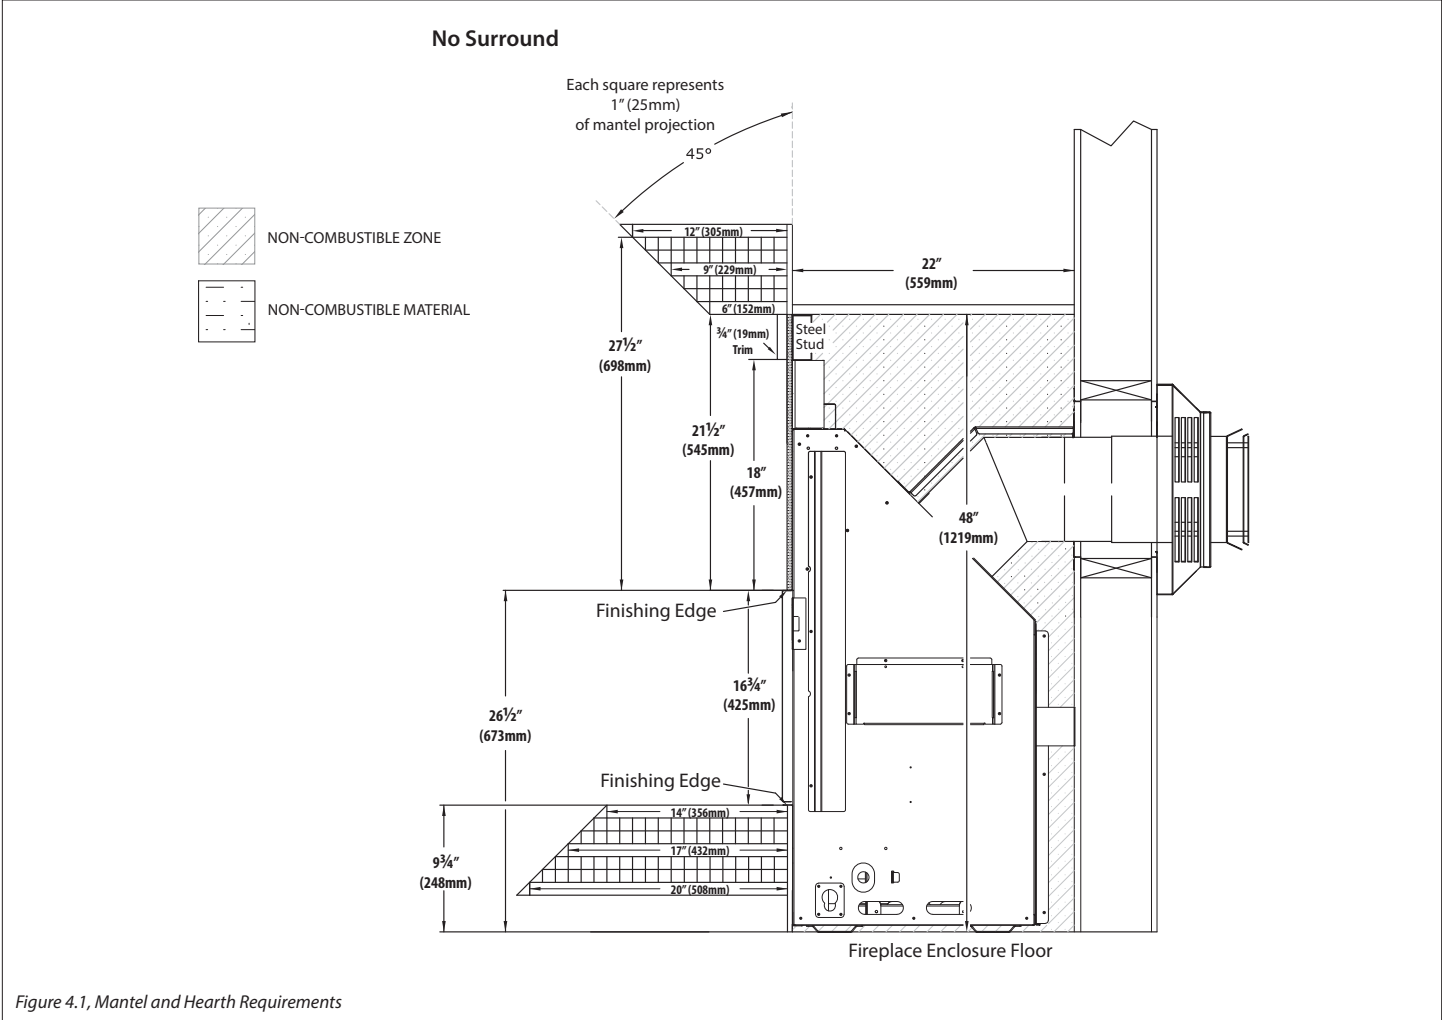

Figure 4.1, Mantel and Hearth Requirements
- **Combustible Mantel Projections (no surround)** - As referenced in Figure 4.1, the 3/4" trim can start at 18" (457mm) above the finishing edge with a 6" (152mm) mantel starting at 21-1/2" (545mm) above the finishing edge. Mantel projections can increase 1" (25mm) of depth for every 1" (25mm) of height starting at the 6" (152mm) mantel.
- **Combustible Hearth** - As referenced in Figure 4.1, the bottom of the finishing edge can be flush with the top of the hearth if you are not using any optional surrounds. Refer to 4.3 Masonry Finishing Guidelines for Optional Surrounds on page 31 if installing with optional surround.